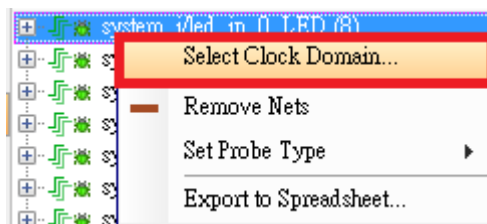

Figure 11
2.10 若有，點選該 net 並按右鍵選擇 Select Clock Domain...，如 Figure 11